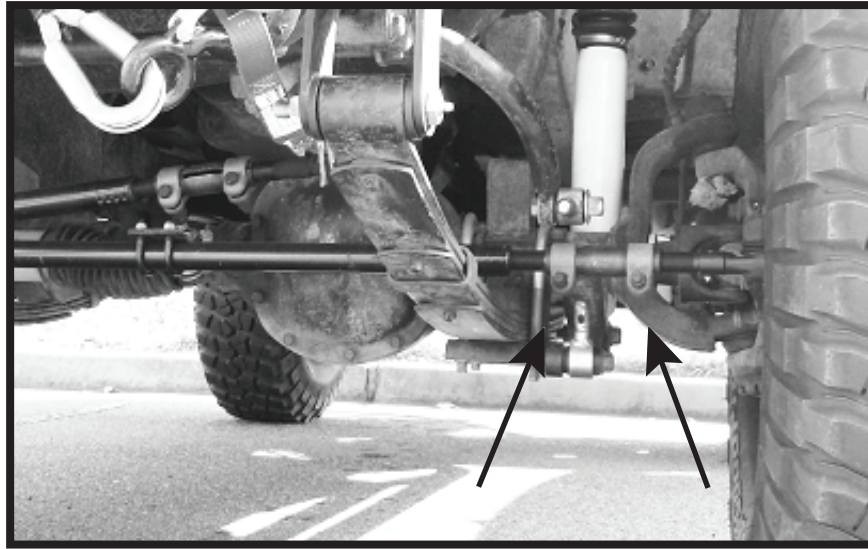

Figure 2
Step 5. Attach tie rod end to the driver side knuckle. Orientate the clamps in the same direction as shown in (Figure 2).